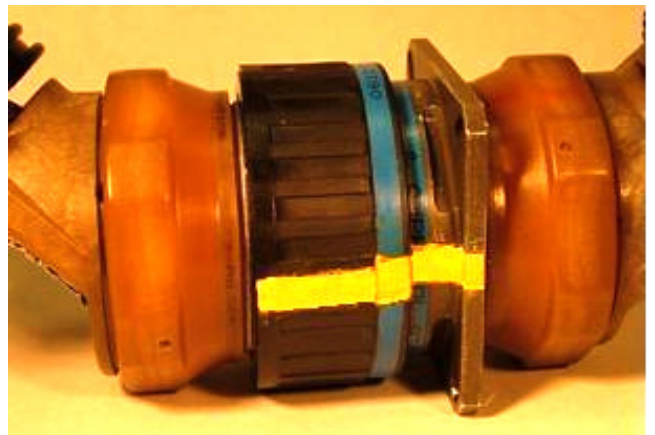

Figure 45. Applied Yellow Stripe For Condition Two
f. If measured within tolerances, then both the connector and receptacle shall be marked with a yellow stripe (Figure 45).
l. For condition two, the yellow stripe shall extend continuously from the receptacle onto the plug coupling ring over its full length. See Figure 45.